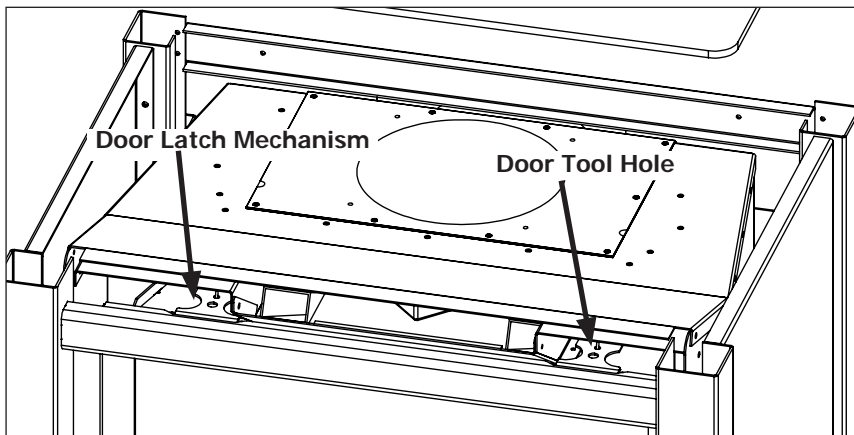
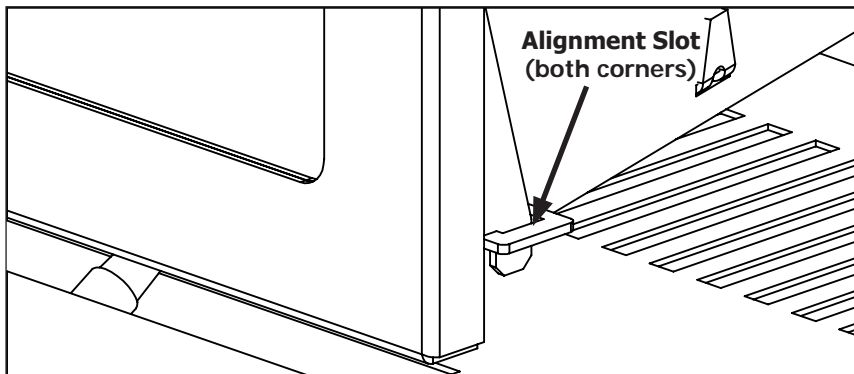

Figure 18: Top Latches for Glass Door
Figure 19: Bottom Alignment Slots for Glass Door
In order to install the log set, and for regular cleaning, the glass door must be removed. The face must first be removed, as outlined in the section above, before accessing the door latches. There are two (2) door latch mechanisms on top the glass door as shown in Figure 18. Each latch has a hole at the front to use the door tool, supplied with the unit, to pull the mechanisms straight out and up. When the top latches are unhooked, lean the door forward and then lift it up out of the alignment slots at the bottom corners of the firebox, shown in Figure 19.